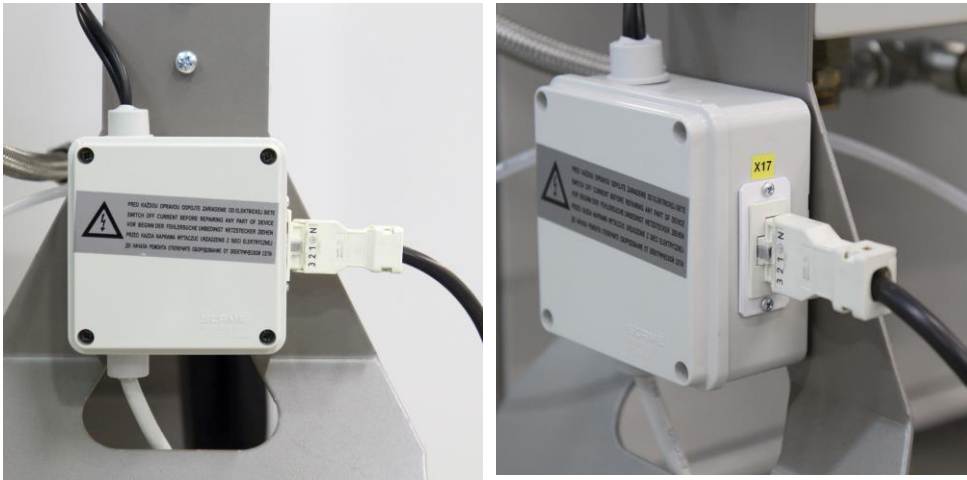

Fig.13
- Connect the compressor module to the dryer module using the W22 cable (Fig. 13).